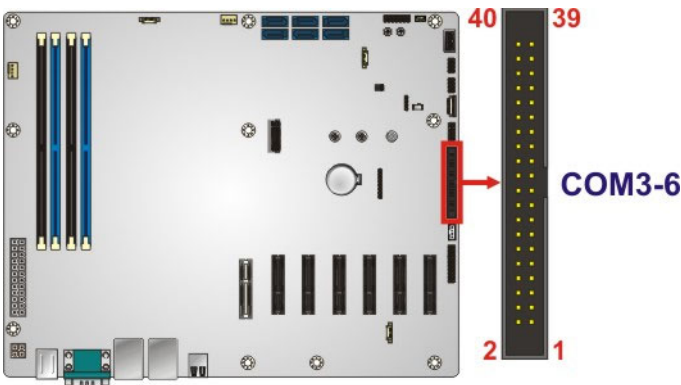

Figure 3-21: RS-232 Serial Port Connector Location
- CN Location: See Figure 3-21